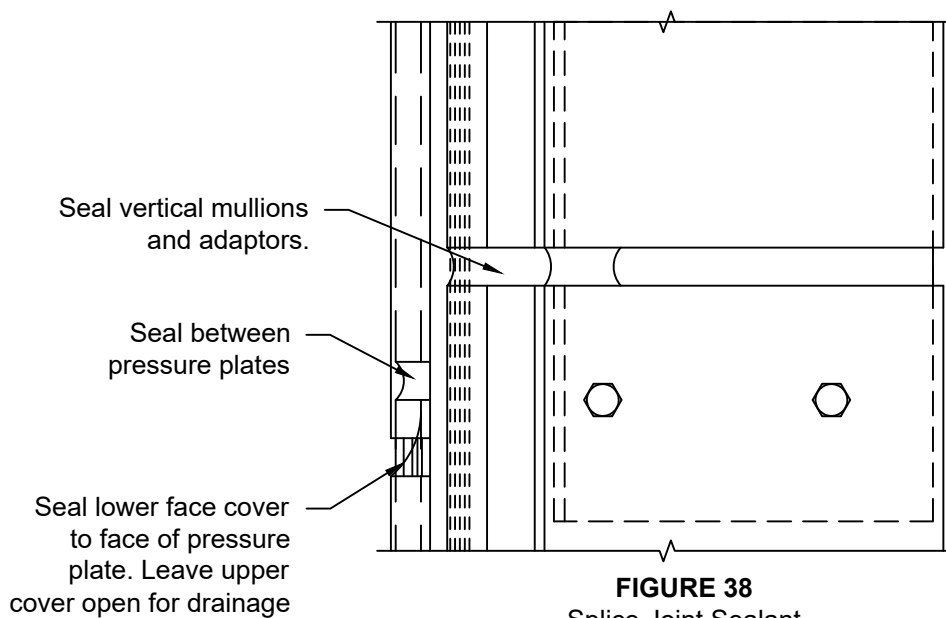

FIGURE 38
- B.4 Offset pressure plates and face covers per **FIGURE 37 page 38**, sealing pressure plate and face cover joints as shown in **FIGURE 38, page 38.**